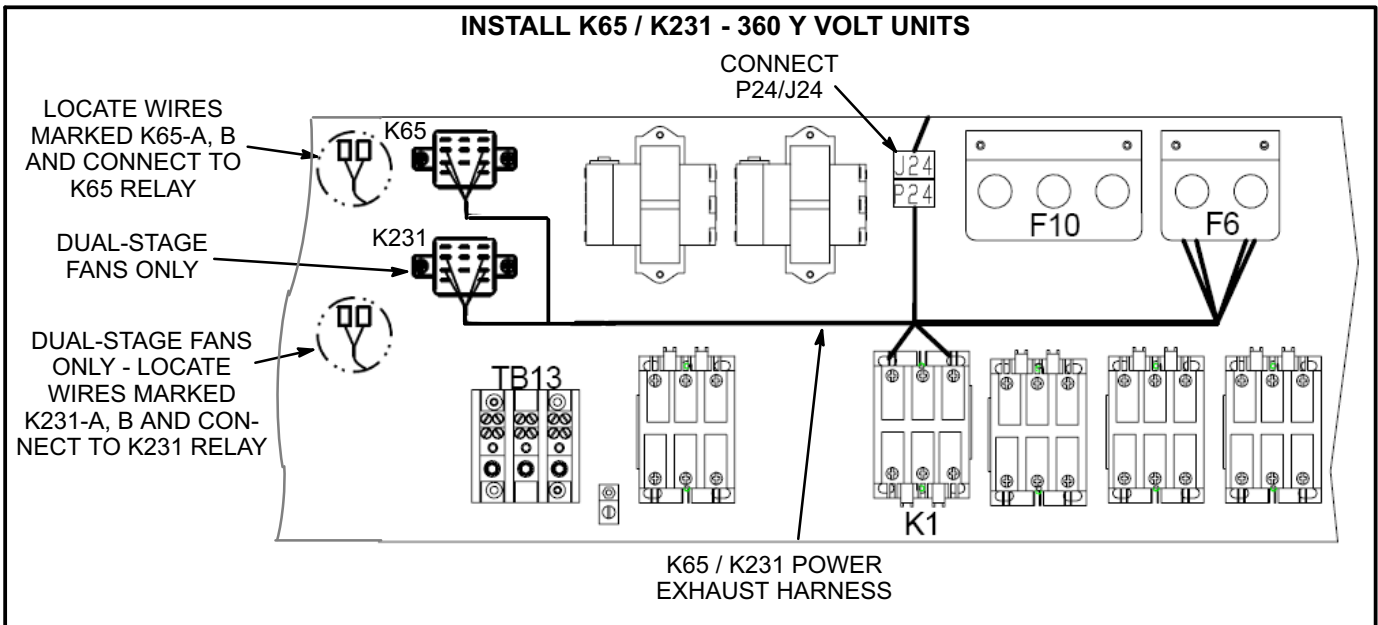

FIGURE 4
- 2- *242 - 360 Y-Volt Units Only* - Install F6 fuse block near F10 fuse block. Insert fuses provided. See figure 4.